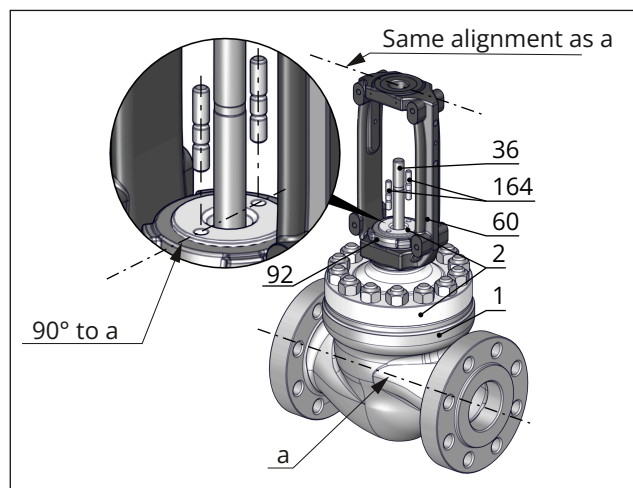

Fig. 34: Alignment of bonnet on the valve body and alignment of yoke on the bonnet
14. Insert the support element (63) (including the pressed-in bushing (7)) upright over the plug stem (36) into the body (1) until it rests on the seating surface inside the body. Use special tool for large nominal sizes.
15. Place a new spiral wound gasket (126) on the support element (63).
16. Insert a new spiral wound gasket (17) into the body (1).
17. Place the valve bonnet (2/21) including yoke (60) from the top over the plug stem (36) on the body (1). Observe the alignment (see Fig. 34). The two boreholes on the top of the bonnet must be at a right angle to the pipeline axis.
18. Press the plug (5) firmly into the seat (4), while fastening down the valve bonnet (2/21) with the body nuts (14). Tighten the body nuts (14) gradually in a crisscross pattern. Observe tightening torques.
9. Place a new spiral wound gasket (17) on the valve body (1). Before inserting the gasket, clean the seating surface and check for damage.
10. Place a new spiral wound gasket (126) on the support element (63) or seat retainer (124). Before inserting the gasket, clean the seating surface and check for damage.
11. Place the valve bonnet (2/21) including yoke (60) from the top over the plug/piston stem (36) onto the body (1). Observe the alignment (see Fig. 34). The two boreholes on the top of the bonnet must be at a right angle to the pipeline axis.
12. Firmly press the plug/piston (5) into the seat (4), while fastening down the valve bonnet (2/21) with the body nuts (14). Tighten the body nuts (14) gradually in a crisscross pattern. Observe tightening torques.
13. Carefully slide the packing parts over the plug/piston stem (36) into the packing chamber using a suitable tool. Refer to the documentation of the spare packing for the correct sequence and alignment of the parts.
14. Screw in and hand-tighten threaded bushing (8).
15. Tighten threaded bushing (8) gradually applying the specified tightening torque.
11. Place a new spiral wound gasket (17) on the valve body (1). Before inserting the gasket, clean the seating surface and check for damage.
12. Place a new spiral wound gasket (126) on the support element (63) or seat retainer (124). Before inserting the gasket, clean the seating surface and check for damage.
13. Place the valve bonnet (2/21) including yoke (60) from the top over the plug/piston stem (36)
onto the body (1). Observe the alignment (see Fig. 34). The two boreholes on the top of the bonnet must be at a right angle to the pipeline axis.
14. Firmly press the plug/piston (5) into the seat (4), while fastening down the valve bonnet (2/21) with the body nuts (14). Tighten the body nuts (14) gradually in a crisscross pattern. Observe tightening torques.
15. Carefully slide the packing parts over the plug/piston stem (36) into the packing chamber using a suitable tool. Refer to the documentation of the spare packing for the correct sequence and alignment of the parts.
16. Insert packing follower (8).
17. Place the packing flange (162) over the studs (164) of the valve bonnet (2/21) on the packing follower (8).
18. Thread the two packing nuts (163) (including disk springs when packing flange is loaded by external spring elements) onto the studs (164) and finger-tighten them. In the version with spring-loaded packing, the packing nuts (163) must be guided through the holes in the packing flange.
19. Gradually tighten the two packing nuts (163) on the packing flange (162) at the hex head in a crisscross pattern until the specified tightening torque is reached.
6. Insert the seat retainer (124) (including pressed-in bushing (7)) upright over the plug stem (36) into the body (1) and center them on the seat (4). Use special tool for large nominal sizes. Align the openings of the seat retainer (124) symmetrically with the pipeline axis.
7. Place a new spiral wound gasket (126) on the seat retainer (124).
8. Insert a new spiral wound gasket (17) into the body (1).
9. Place the valve bonnet (2/21) including yoke (60) from the top over the plug stem (36) on the body (1). Observe the alignment (see Fig. 34). The two boreholes on the top of the bonnet must be at a right angle to the pipeline axis.
10. Press the plug (5) firmly into the seat (4), while fastening down the valve bonnet (2/21) with the body nuts (14). Tighten the body nuts (14) gradually in a crisscross pattern. Observe tightening torques.